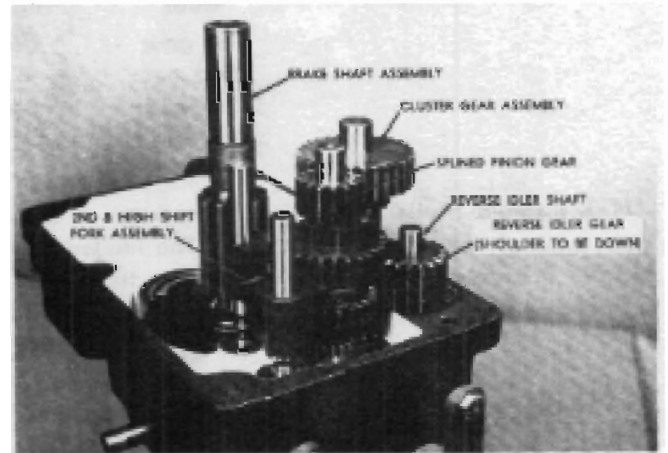

FIGURE 3
11. Shift the 2nd and high shift fork assembly up into the 2nd speed position. See Figure 3.